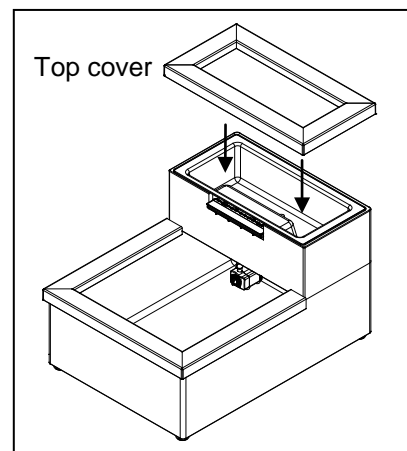

Fig. 9
9. Place the top cover on upper section. Fig. 9